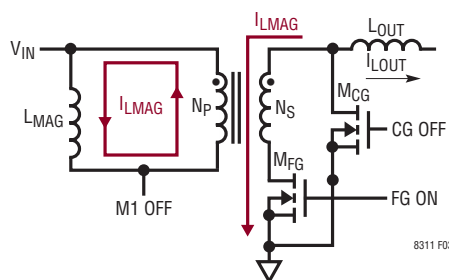

Figure 3. With FG On, I_{LMAG} Is Conducted Through M_{FG} to Ground on the Secondary Side When M1 Turns Off
the primary winding voltage gets smaller too, effectively moving SWP towards V_{IN} . Since M_{FG} is still on, and M_{CG} 's body diode is on, the secondary winding voltage gets clamped at about a diode voltage. Through transformer action, SWP gets clamped to approximately V_{IN} . I_{LMAG} flows in the secondary windings, as shown in Figure 3, flowing from the drain to source of M_{FG} , to ground. M_{CG} 's body diode sources I_{LOUT} and I_{LMAG} .
2. **Resonant Reset Case (blue waveform):** Resonant reset ultimately completes when SWP's quasi-sinusoidal waveform returns to V_{IN} , by which point $I_{L_{MAG}}$ is reset to a negative value. FSW is eventually clamped by M_{FG} 's body diode, and conducts $I_{L_{MAG}}$ through the secondary windings, towards the output inductor (similar to Figure 3, but with $I_{L_{MAG}}$ direction reversed on primary and secondary sides). With a diode voltage imposed across the secondary windings, transformer action